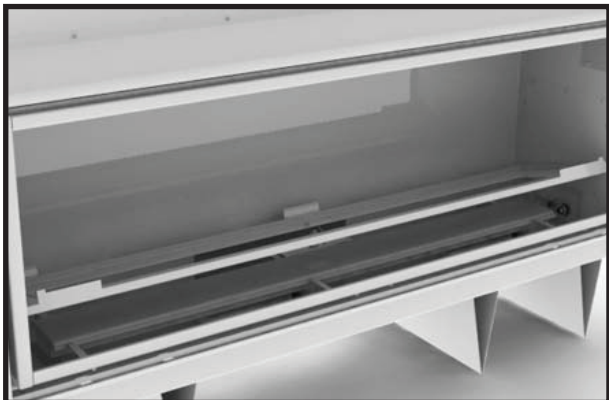

Figure 6: Tilting burner tray to install.
3. Tilt the burner tray into the unit and place on top of the manifold brackets and over top of the pilot (Figure 6).